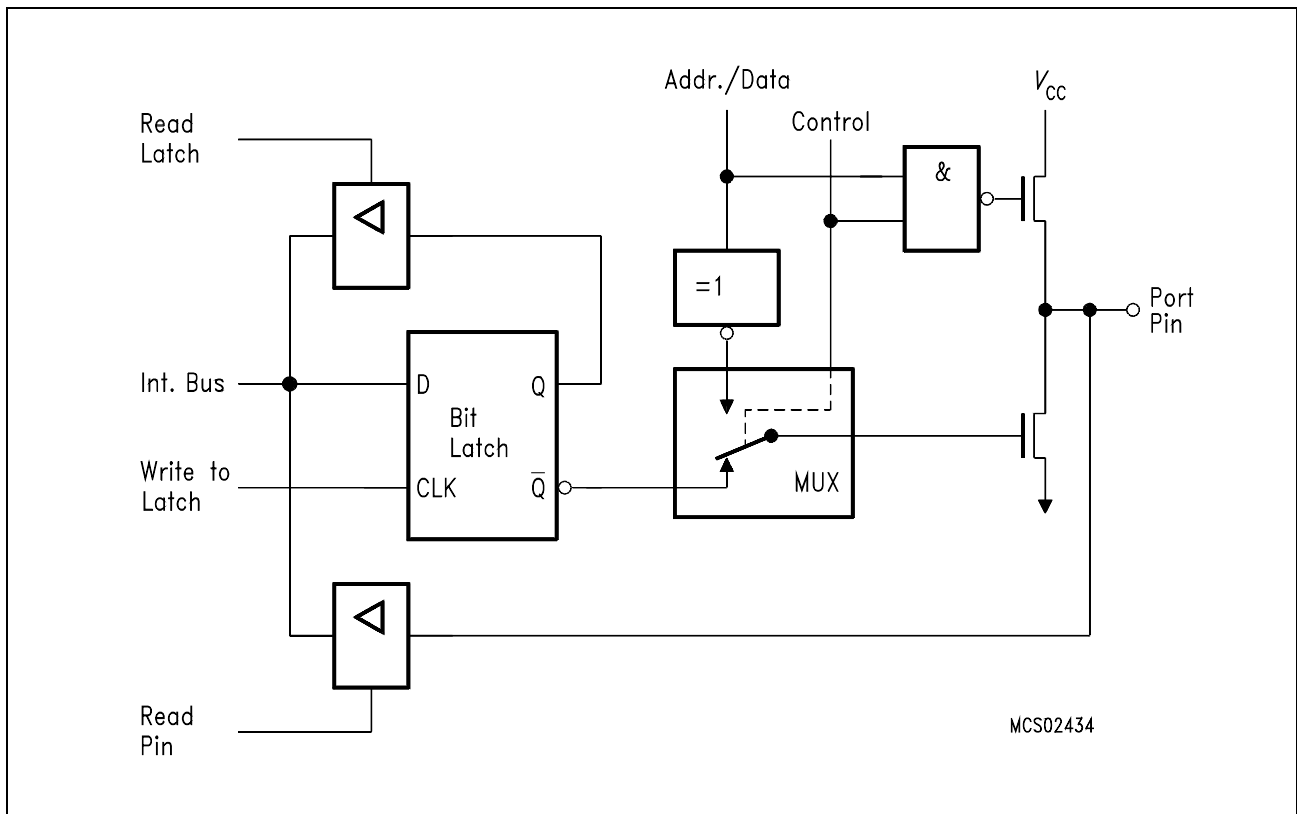
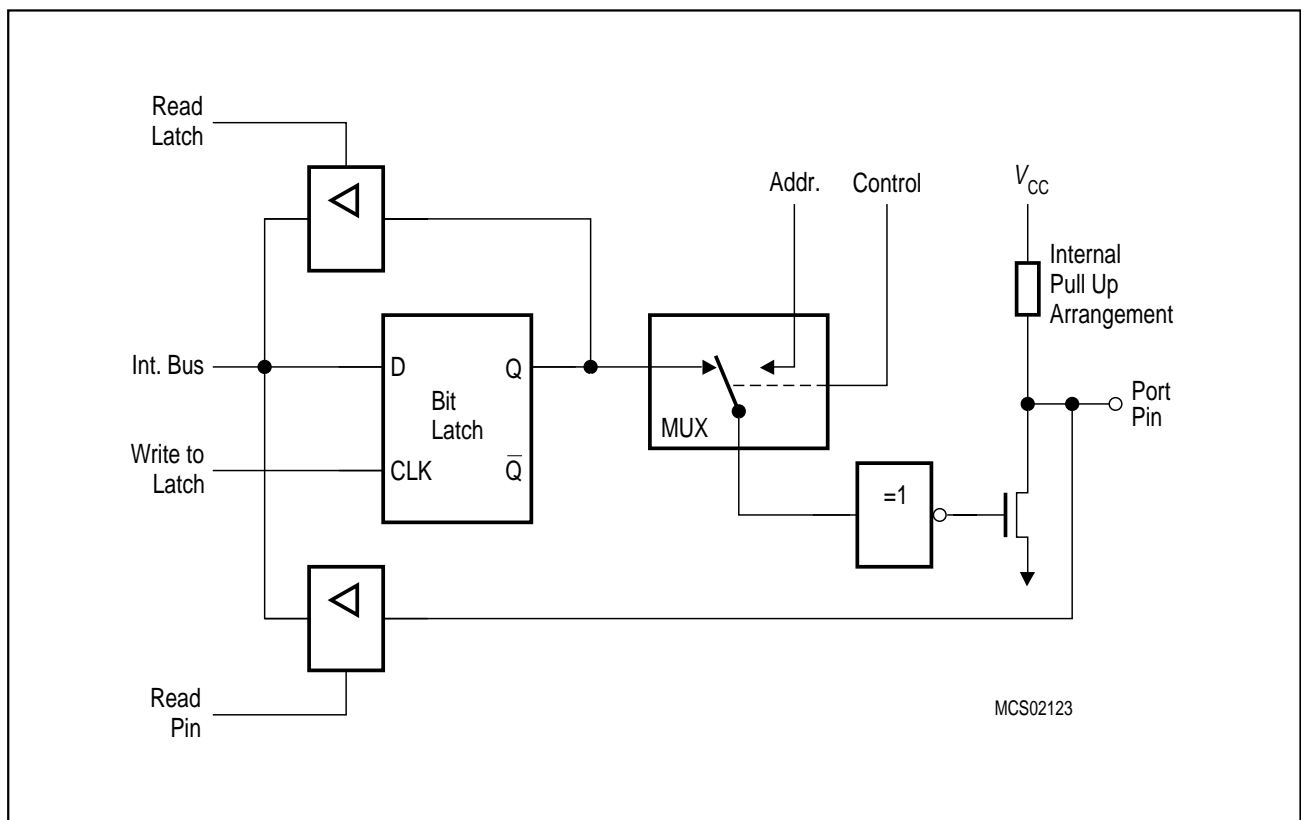

Figure 6-16a
Figure 6-16b
Port 0, in contrast to ports 1, 2 and 3, is considered as "true" bidirectional, because the port 0 pins float when configured as inputs. Thus, this port differs in not having internal pullups. The pullup FET in the P0 output driver (see **figure 6-16a**) is used only when the port is emitting 1s during the external memory accesses. Otherwise, the pullup is always off. Consequently, P0 lines that are used as output port lines are open drain lines. Writing a "1" to the port latch leaves both output FETs off and the pin floats. In that condition it can be used as high-impedance input. If port 0 is configured as general I/O port and has to emit logic high-level (1), external pullups are required.
As shown in **figure 6-16a** and below in **figure 6-16b**, the output drivers of ports 0 and 2 can be switched to an internal address or address/data bus for use in external memory accesses. In this application they cannot be used as general purpose I/O, even if not all address lines are used externally. The switching is done by an internal control signal dependent on the input level at the $\bar{E}A$ pin and/or the contents of the program counter. If the ports are configured as an address/data bus, the port latches are disconnected from the driver circuit. During this time, the P2 SFR remains unchanged while the P0 SFR has 1's written to it. Being an address/data bus, port 0 uses a pullup FET as shown in **figure 6-16a**. When a 16-bit address is used, port 2 uses the additional strong pullups p1 to emit 1's for the entire external memory cycle instead of the weak ones (p2 and p3) used during normal port activity.